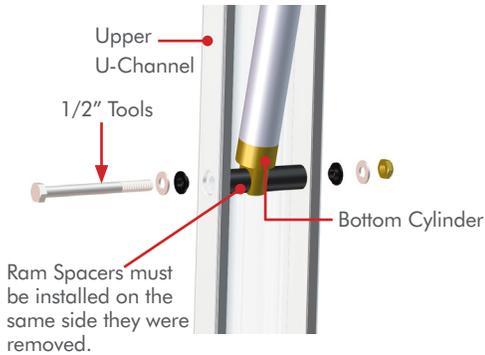

Figure 1
- STEP 1** Remove the Hardware that attaches the **Upper Cylinder Fitting** to the U-Channel using a 1/2" Socket and wrench. **FIG 1**